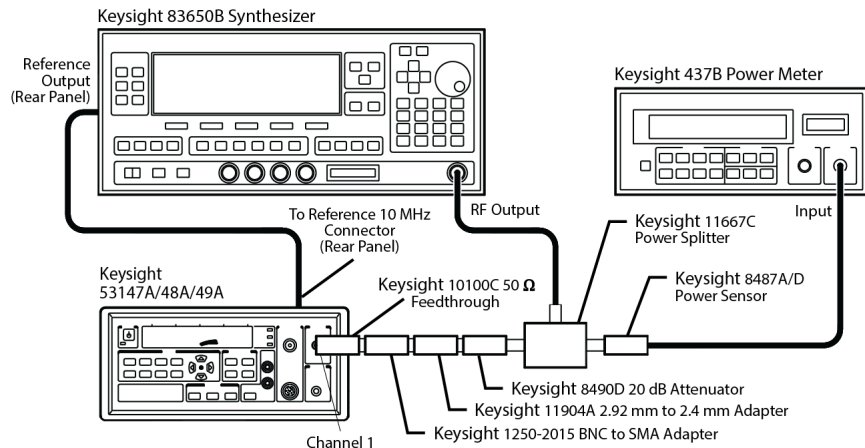

Figure 1-4 50 MHz to 125 MHz Frequency Sensitivity Test Setup
- 1 Connect an Keysight 10100C 50 Ω Feedthrough Terminator to the **CHANNEL 1** input connector on the instrument's front panel (refer to Figure 1-4 for steps 1 through 9).